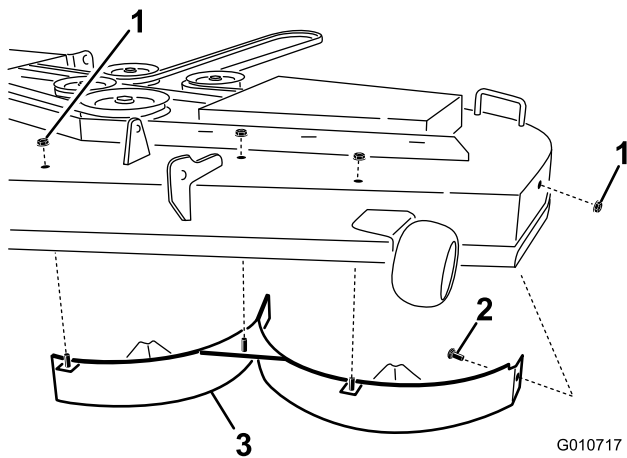

Figure 10
12. Install the left baffle to the mower deck as shown in Figure 10. Use three lock nuts (5/16 inch) to secure the welded posts of the right baffle to the top of the mower deck at the center, left of center and left positions. Hand tighten the fasteners.